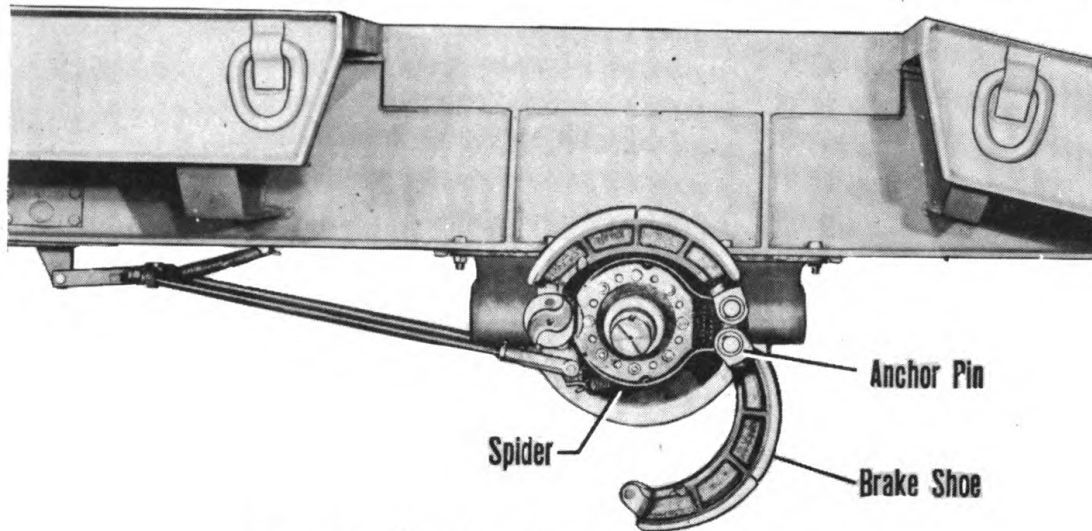

Figure 25—Rear Axle, Showing Brake Shoe Removal
d. Drive out the anchor pins, taking care not to damage their felts. (See figure 25.)